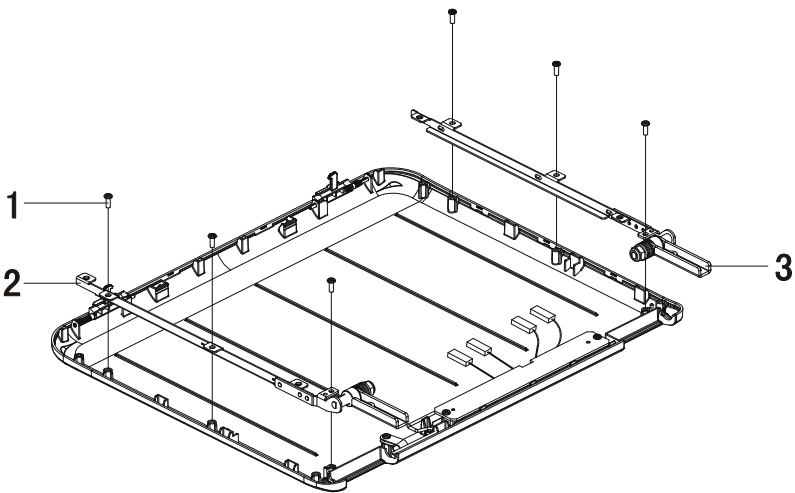

Figure 4-9 Removing left and right damping axes
9) As shown in Figure 4-9, remove six screws, and take out the left and right damping axes.